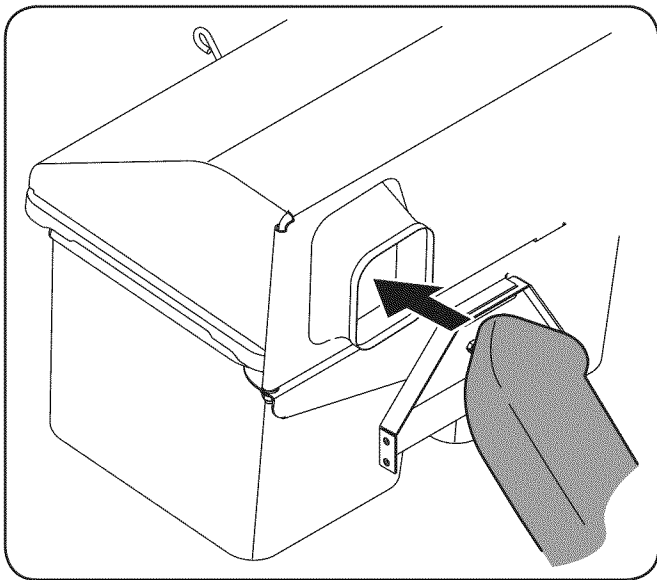

Figure 6
8. Insert the chute tube through the grass-catcher hood, in the opening provided. It is easiest to feed the end of the tube into the opening with the chute tube flipped upside down, then rotating right-side once inserted into the hood. See Figure 6.